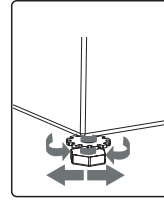

Figure 3
- 4: Adjust by rotating the feet upwards or downwards. (Figure 3)